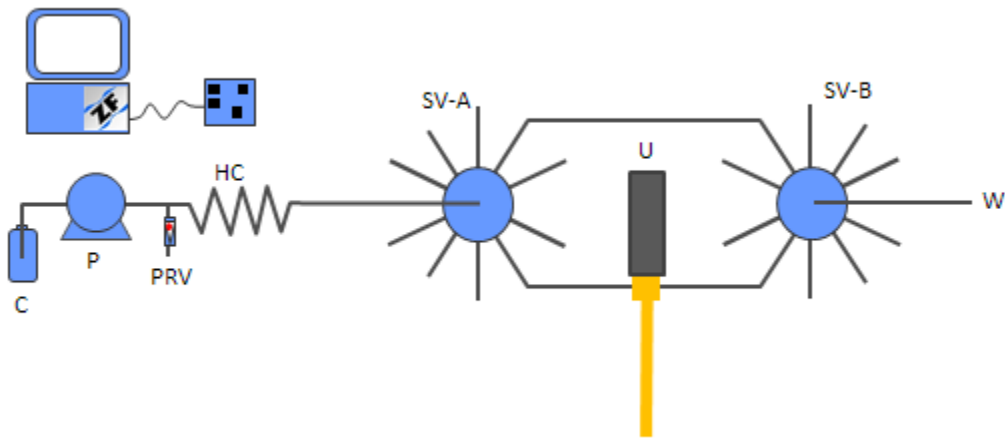

Figure 19: Zone Fluidics Manifold
The sampling probe can be used in a number of different sampling applications. The following sections describe the basic Zone Fluidics (ZF) manifolds and associated fluid handling sequence. ZF manifolds (see Figure 19) typically comprise of a bi-directional positive displacement pump (P) such as Global FIA's milliGAT pump and one or more multi-position selection valves (SV-A and SV-B). These valves have a single common port that can be sequentially coupled to one of the surrounding ports. These surrounded ports are typically plumbed with narrow bore PFA tubing to reagent reservoirs or fluid handling unit operations (U). By appropriate port selection and pump action, fluids can be shunted around the manifold to achieve the desired sample transformations and manipulations. A holding coil (HC) is typically positioned between the pump and the primary selection valve (SV-A) so that fluids aspirated are not drawn into the pump; the pump typically is only exposed to the carrier solution (C). A pressure relief valve (PRV) immediately downstream of the pump ensures that in the event of a blockage or dead head, fluid pumped will be diverted to waste instead of entering the internals of the pump or valves. The devices are controlled using Global FIA's FloZF (ZF) device control and data acquisition software typically installed on a PC or laptop computer.